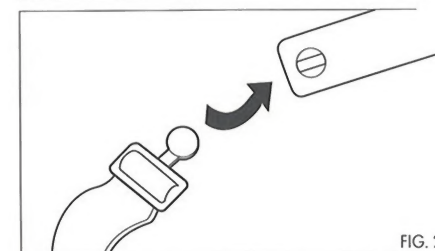

FIG. 2
- 1 Attach the elastic chest belt to the pulse transmitter. (FIG. 2)